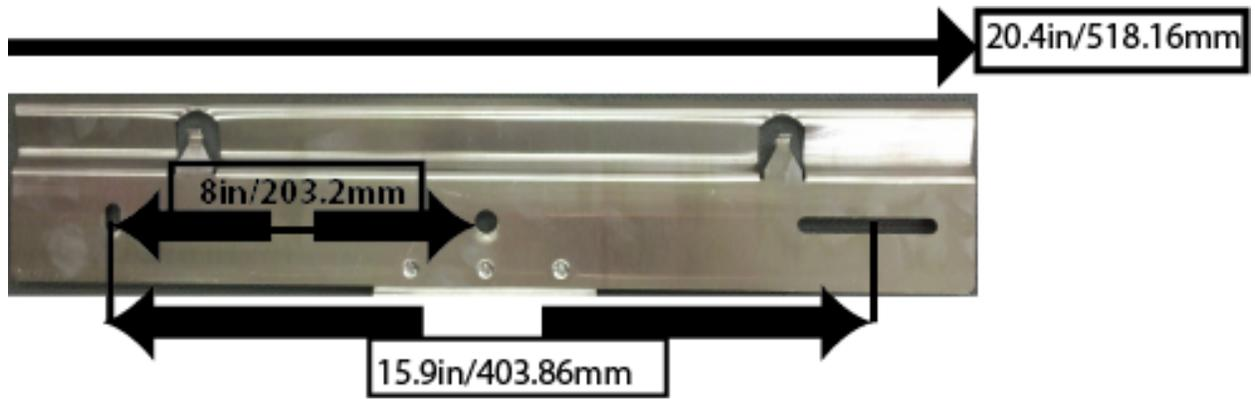

Figure 1.01a - Bracket and Measuring Zoom Detail
Step 2: Orient the bracket such that the “C” hooks face outward and upward. See Figure 1.01a
Step 3: Using the hardware provided, level and mount bracket horizontally using mounting holes **A** and **B** in Figure 1.01a.